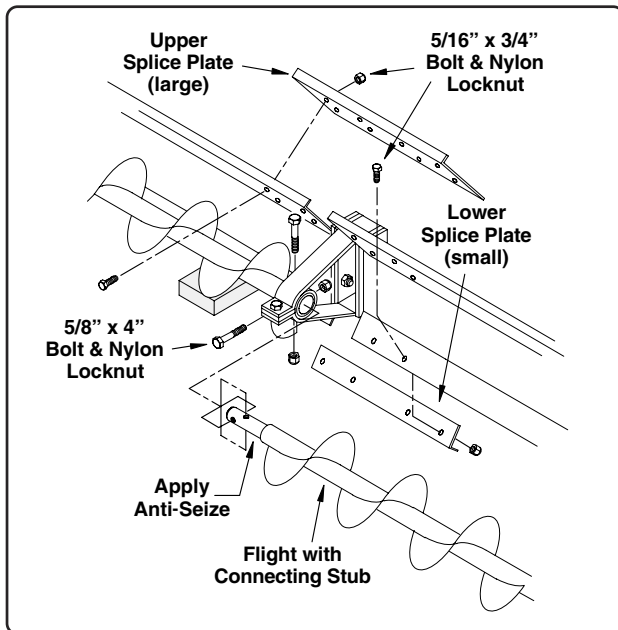

Fig. 9
3. Apply anti-seize compound to the stub on the next section of flight. Install the flight, sliding the stub end through the bearing holder and into the section of flight previously installed. Secure the flight sections using two 5/8" x 4" bolts and nylon locknuts. (See Fig. 9 on the previous page).
6. Attach splice plates to the sweep shield where necessary (See Fig. 9 on Page 21 for reference). Use eight 5/16" x 3/4" bolts and nylon locknuts on the upper splice plate (the larger plate) and use four 5/16" x 3/4" bolts and nylon locknuts on the lower splice plate (small plate).